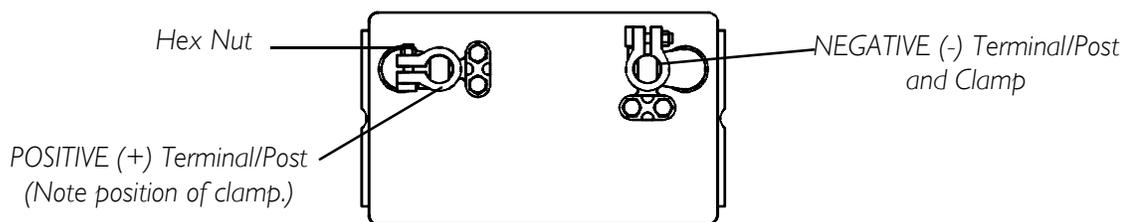

FIGURE 11.8 Connecting Battery Cables - Battery Clamp Method
- Dual Group 22NF Batteries without Mounting Holes in the Terminal(s)/Post(s) - Use battery clamp method described on page 57. Refer to FIGURE 11.8 and FIGURE 11.9.
The battery clamp of the **POSITIVE (+)** battery terminal/post **MUST** be mounted in the position shown in **FIGURE 11.8**. Otherwise, the battery box top cannot be installed properly.
NOTE: For this procedure, refer to FIGURE 11.8 and FIGURE 11.9.
1. Perform one (1) of the following:
- If the battery clamp of the POSITIVE (+) battery terminal/post is NOT mounted in the orientation shown in *FIGURE 11.8*, perform the following:
- iii. Reposition the battery clamp on the POSITIVE (+) battery terminal/post as shown in *FIGURE 11.8*.
- If the battery clamp on the POSITIVE (+) battery terminal/post is positioned as shown in *FIGURE 11.8*, proceed to STEP 2.